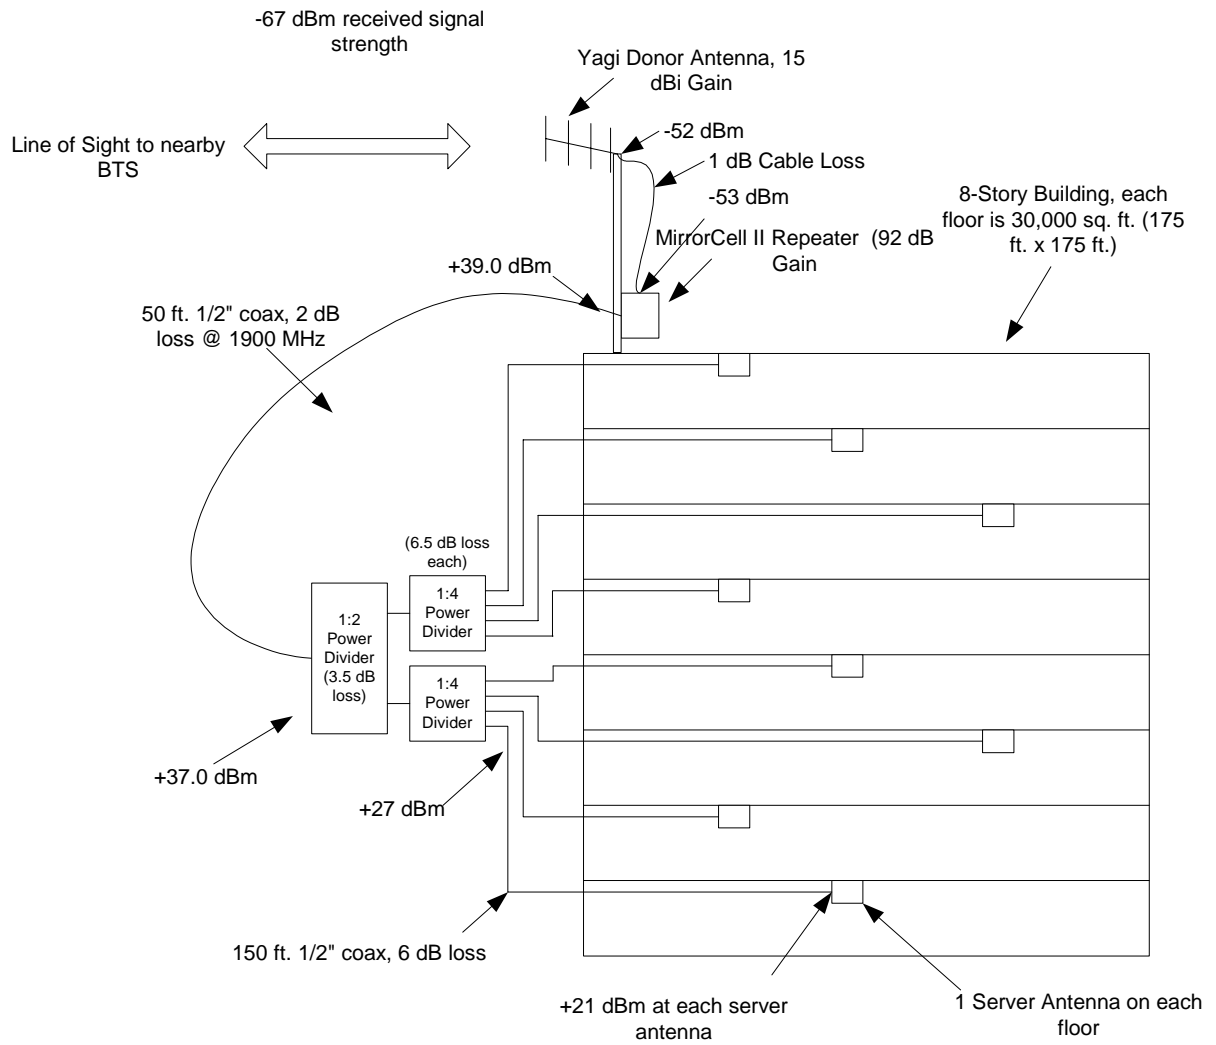

Figure 3: MirrorCell® II Indoor Installation Example
- Figure 3: MirrorCell® II Indoor Installation Example
An alternate use of this repeater is for indoor applications. The MirrorCell[®] II makes great economic sense for buildings that are too large for the EkoMini repeater, but too small to justify a fiber optic DAS (Distributed Antenna System). One MirrorCell II can cover most typical buildings up to approximately 200,000 square feet using ½" coax and several power dividers feeding approximately eight indoor server antennas. Figure 3 shows a typical example. Also, directional couplers with varying levels of coupling values may be used to tailor the power delivered to each building floor for optimal coverage.